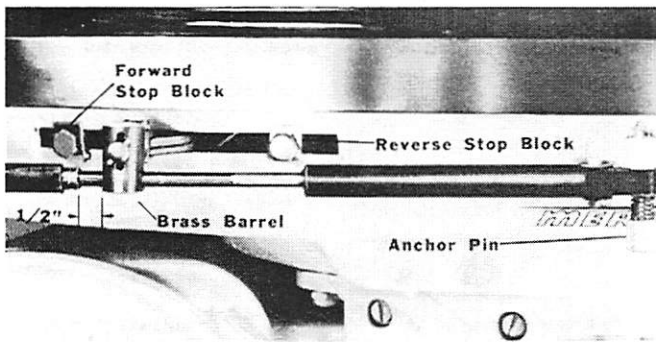

Figure 10. Throttle Stop Adjustments
3. Tighten stop block in bottom cowl so that any forcing of lever will not spring carburetor linkage. (Figure 10)
2. Then tighten stop block against lever in bottom cowl to limit further movement of lever. (Figure 10) (*Note: Reverse RPM can be decreased on lighter boats.*)
1. Adjust brass barrel so that it is 3/8" to 1/2" from end of brass sleeve on engine end of control cable. (Figure 10)